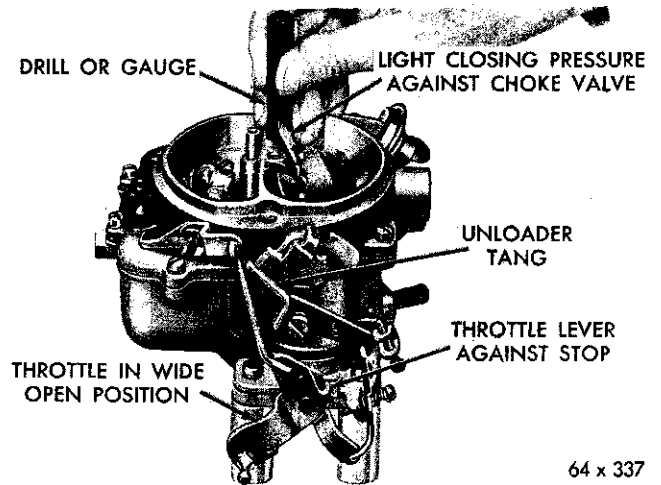

Fig. 14—Measuring the Choke Unloader Setting
(1) Hold the throttle valves in the wide open position. Insert Tool T109-31 or a ¼" drill shank between the upper edge of the choke valve and the inner wall of the air horn, as shown in Figure 14.